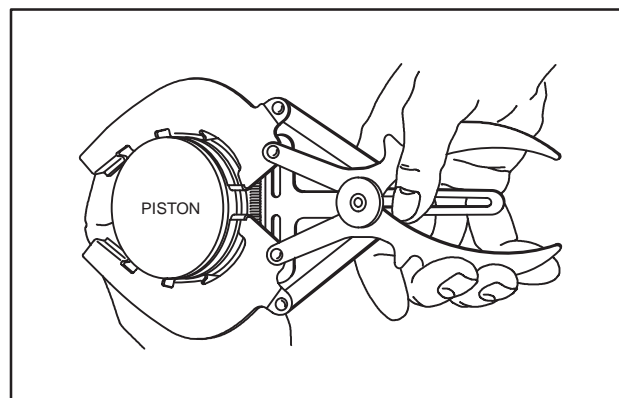

Fig. 1 – Removing Piston Rings
1. Remove compression rings using ring expander, Tool #19340, Fig. 1.